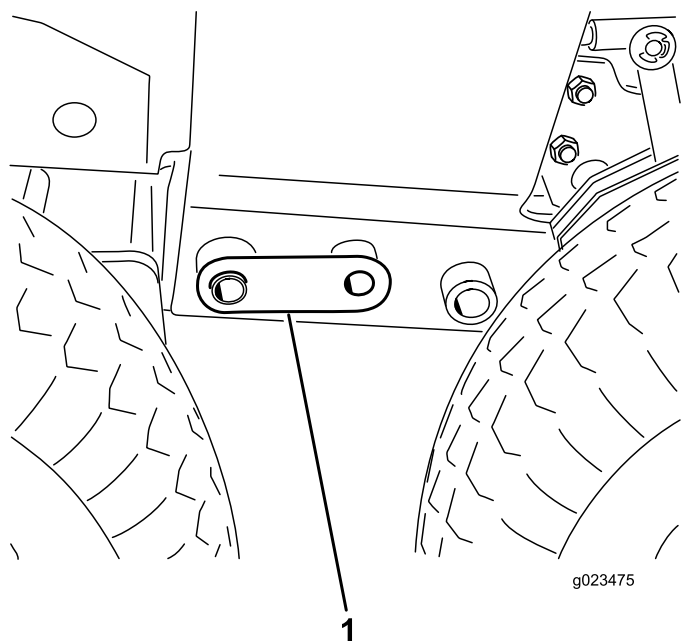

Figure 21
8. Adjust the floor jack to line up the 25 mm (1 inch) holes in the frame, and install a coupler pin on each side (Figure 21).